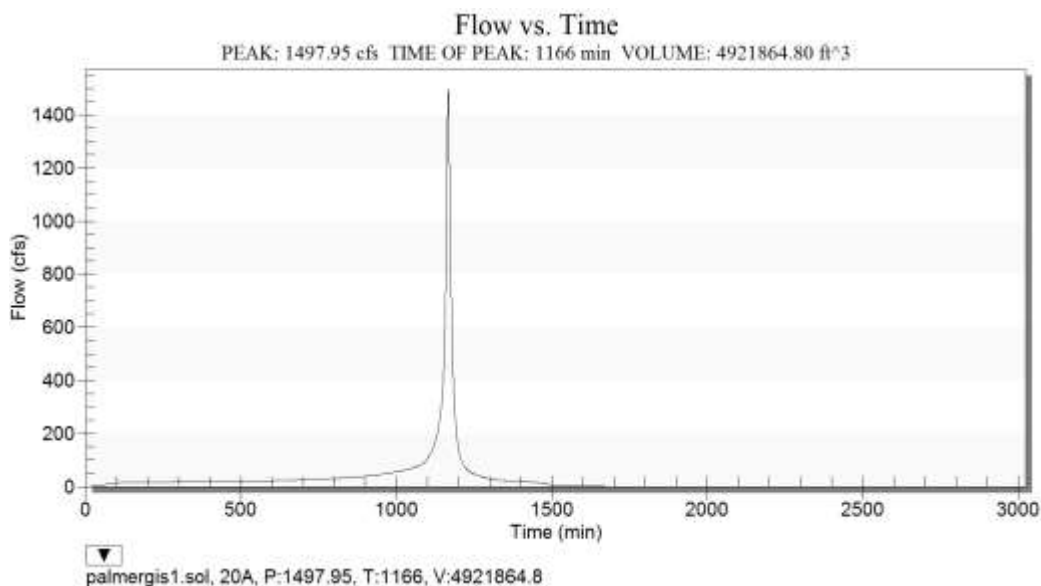

Figure 6 Solution hydrograph for MODRAT simulation
- Review the hydrograph plot that appears in a new plot window. It should look similar to Figure 6.